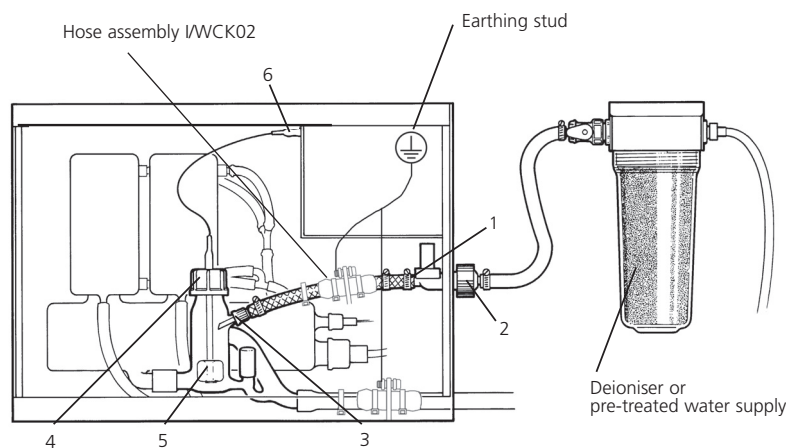

Fig 13 Conversion to deionised or pre-treated water supply
- 8 Take the 220mm length of reinforced plastic tubing with earthed spigot (I/WCK02) from the WCK/N kit. Connect the free-end to the nozzle of the solenoid valve, item 1, fig 13. Secure with metal hose clip. Fit the other end of the tubing to the side arm of the Level Control WL48, item 3, using the screwthread connector.
- 10 Take the plastic screwcap, hose connector and rubber ring from the WCK/N kit. Fit to the deionised water inlet, item 2, fig. 13, having first removed the red protective cap.
- 11 Unscrew the screwcap, item 4, fig. 13, from the Level Control WL48. Remove the glass funnel WF48 and the rubber ring which are no longer required.
- 12 Take the glass float, guide tube and washer assembly, item 5, and pass the electric lead and plug through the hole in the screwcap. Carefully push the washer into the cap.
- 14 Remove the dummy shorting plug from the socket item, 6, fig. 13, and fit the plug from the Float Switch.
- 16 Connect the hose connector, item 2, of the deionised water inlet to the outlet of the deioniser or pre-treated water supply. Note the tubing selected should have a safe working pressure of at least equal to the pressure of the water supply and should be adequately secured with hose clips.